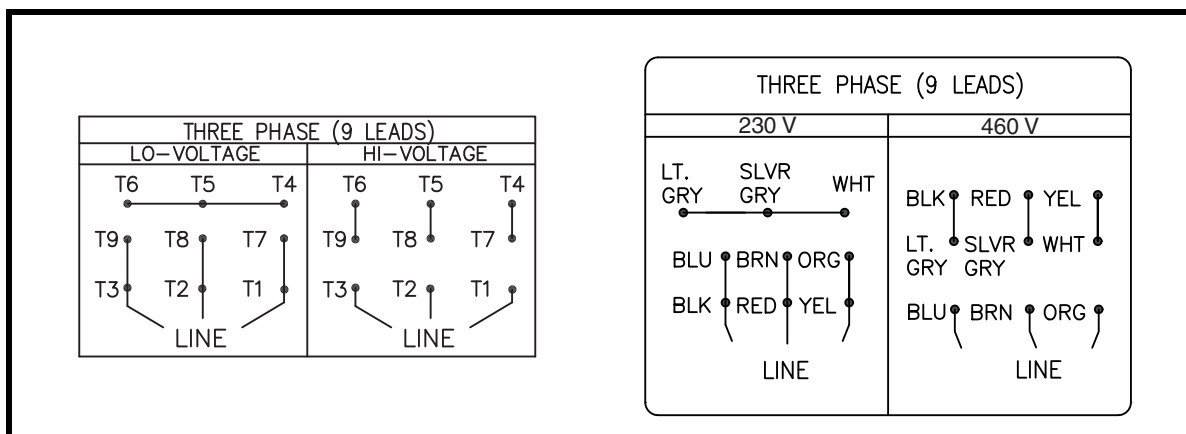

Figure 3. Three Phase Wiring Diagrams
1. Find wiring diagram number for your vibrator on vibrator nameplate or see Figure 3.